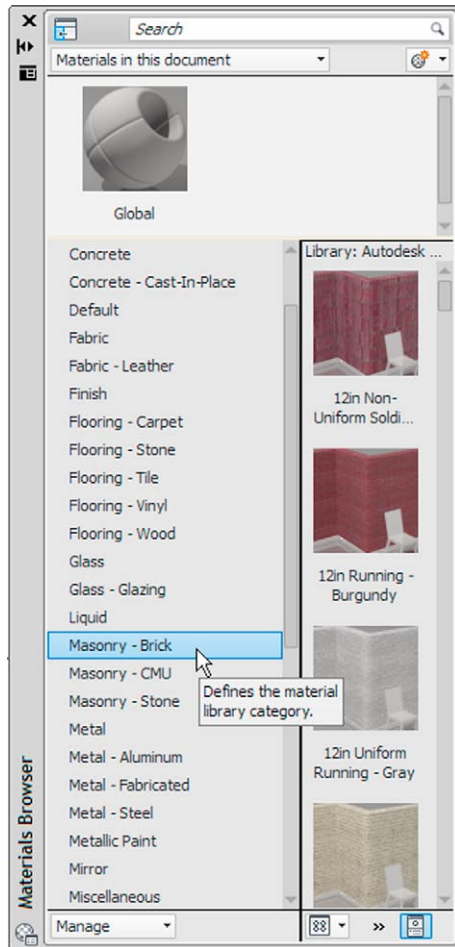

Fig. 15.4 The **Materials Browser** palette showing the **Brick** list
*Click* **Materials Browser** in the **Render/Materials** palette (Fig. 15.3). The **Materials Browser** palette appears *docked* at an edge of the AutoCAD window. *Drag* the palette away from its *docked* position. *Click* the arrow to the left of **Autodesk Library** and in the list which appears, *click* **Brick**. A list of brick icons appears in a list to the right of the **Autodesk Library** list (Fig. 15.4).